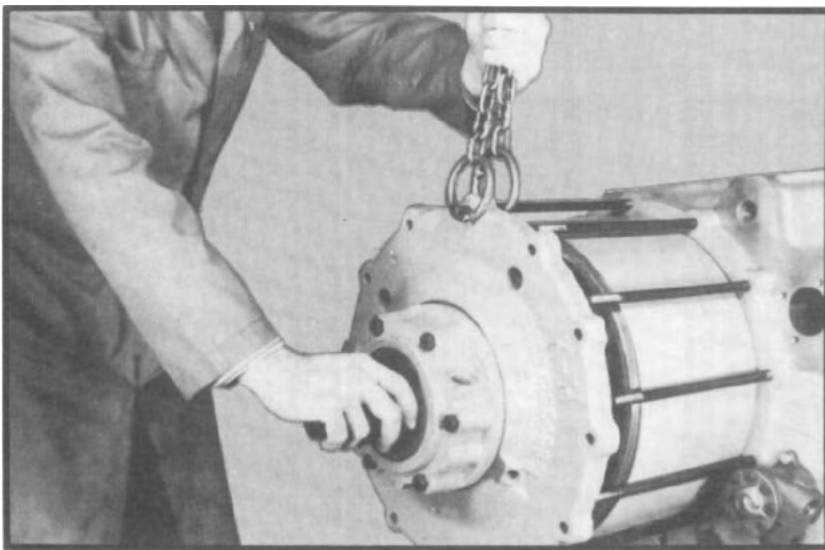

Fig. 134
2.27 Using a chain hoist, lift the differential cap assembly into place. Work the rear output shaft into the splines of the differential case. Be sure the oil drain plug is facing toward the bottom of the transfer case. Push the differential carrier cap onto the studs and tap the cap firmly against the differential housing. Housing must be seated evenly inside the differential cap. (See fig. 134.)